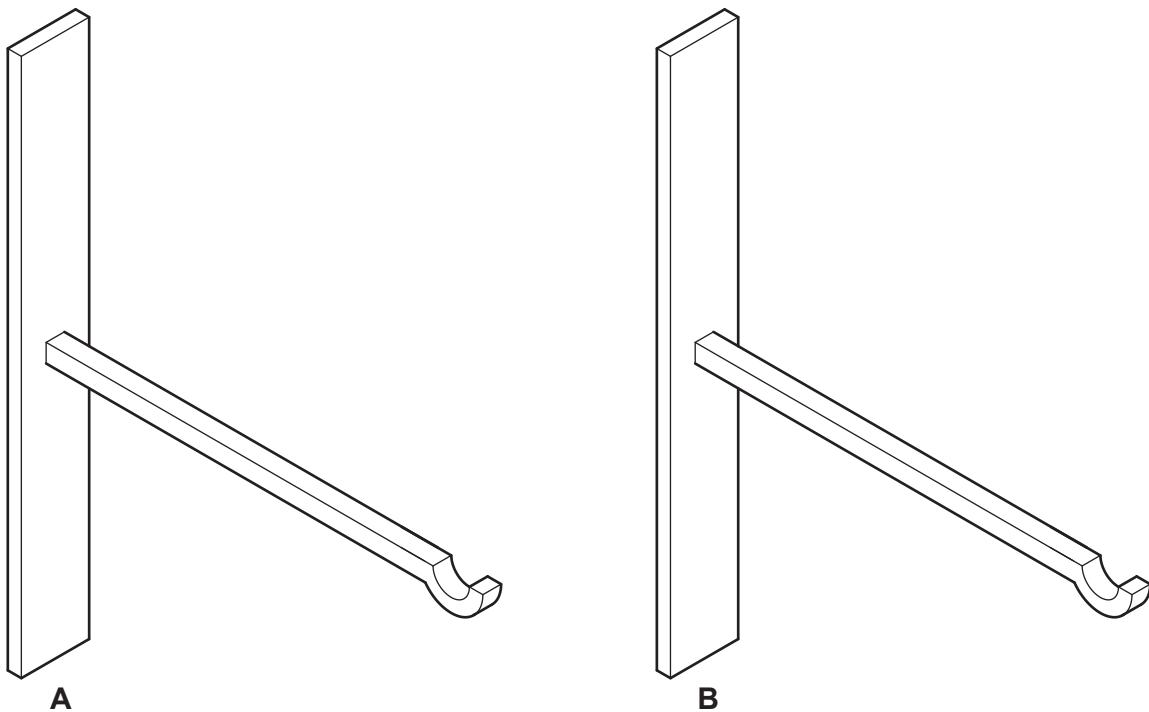

Fig. 10.3
- (c) Fig. 10.3 shows two views of a wall bracket to hold a hanging basket for flowers.